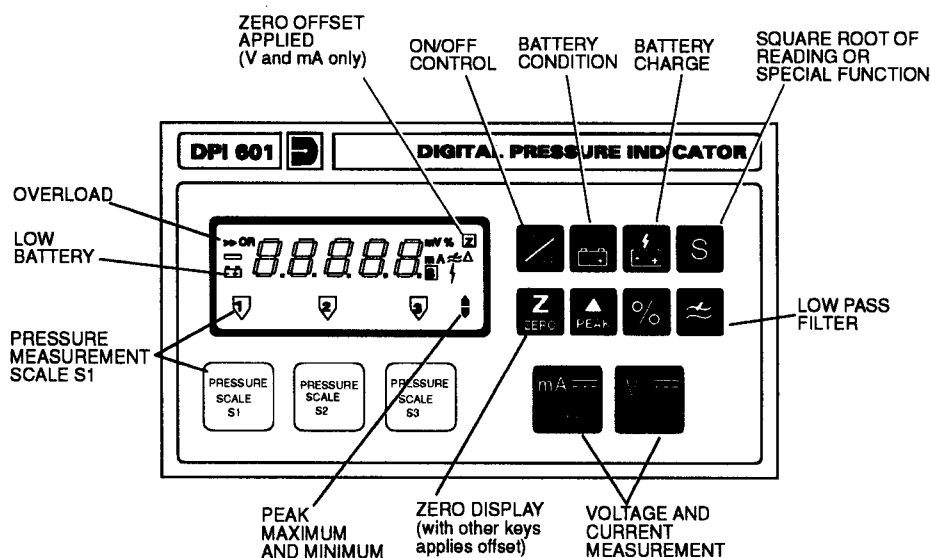

Figure 3, Key-pad and Display
3.2 Key Functions (Figure 3)
4 CALIBRATION (Figures 3 and 4)